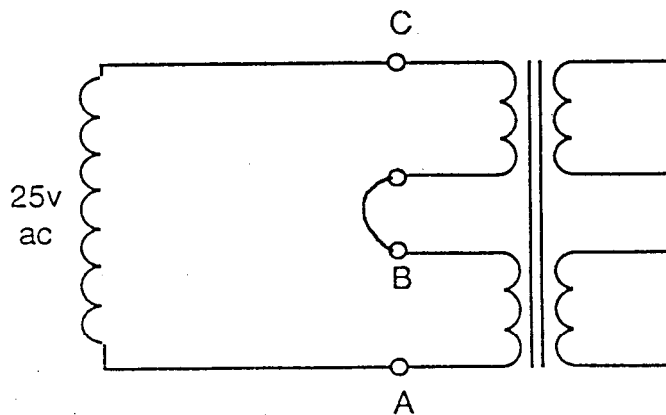

Fig. 3
- Link the two coil ends and connect the 25V ac supply across the ends as shown in fig 3.